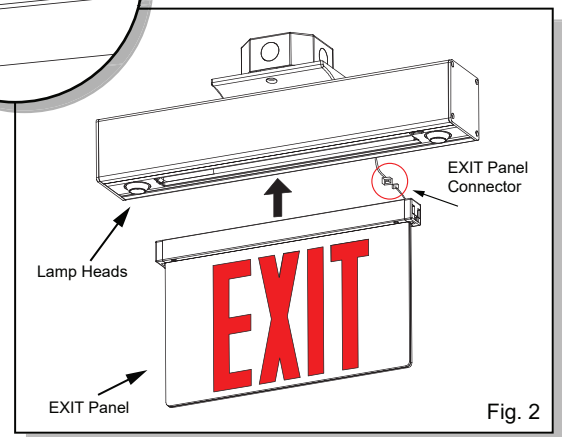

Fig. 2
3. Attach the canopy to the housing using the (2) M4 x 8mm screws (supplied).
4. Insert the (2) plastic rivets (supplied) into the (2) unused M4 holes in the housing.
8. Slide the trim plate assembly fully into the housing and remove the excess slack from the wires inside the housing by pulling them farther out through the canopy. Replace the end plate and secure with the (4) screws, it is recommended to hand tighten or use a low torque driver to avoid stripping the screws.
10. Secure the unit to the adjustable crossbar using the (2) M4 x 40mm screws (supplied). Ensure the canopy is securely fastened against the ceiling or wall and will not rotate.
11. Connect the EXIT panel assembly to the PCB, then secure by sliding into the EXIT panel slot in the trim plate (Fig. 2).